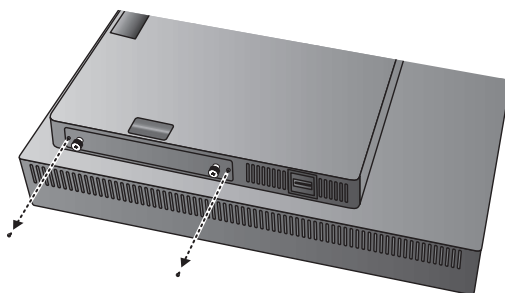

Figure G.2
3. Disconnect outside screws (**Figure G.2**).